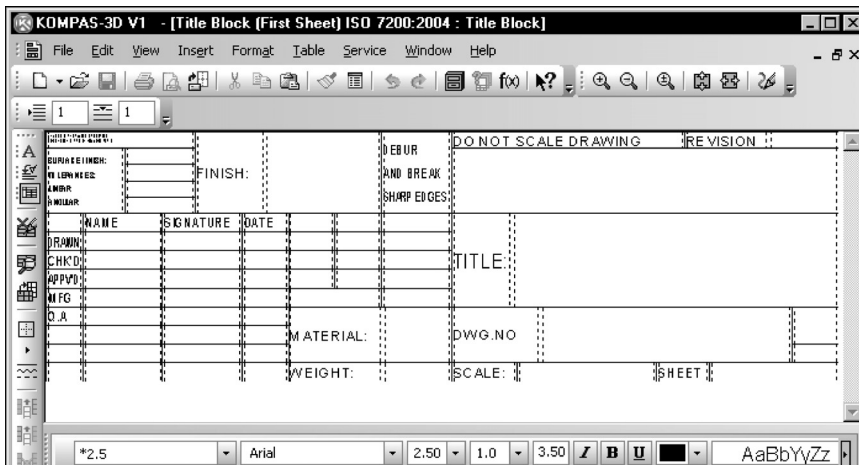

Fig. 11.3. KOMPAS-3D Window in mode of new title block creation
9. The table, the image of which was stored in the selected fragment, will appear in KOMPAS-3D window (Fig. 11.3).